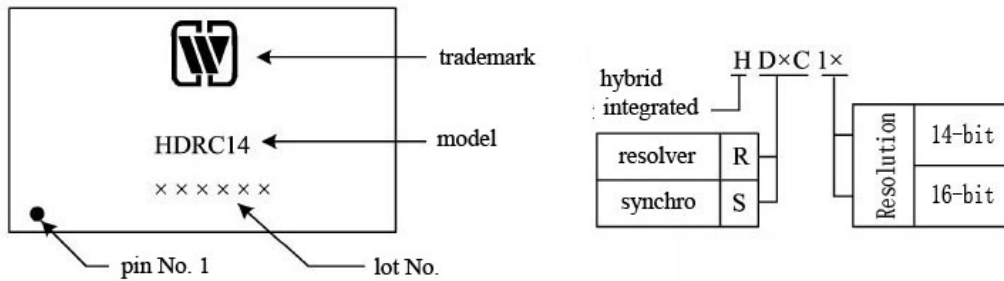

Fig. 7 Part numbering key
**11. Package specifications** (unit: mm) (Fig. 7, Table 5)
**12. Part number key** (Fig. 7)